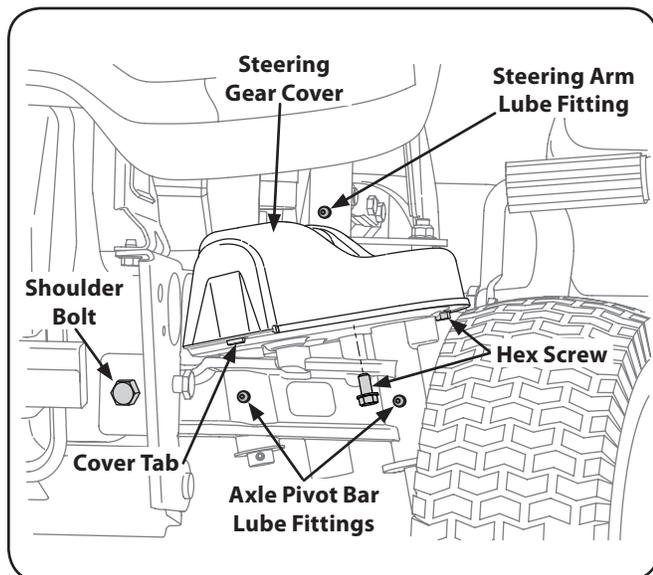

Figure 6-2
1. Apply grease through the lube fitting on the RH and LH steering arms which are located at rearward end of the two steering drag links. See Fig. 6-2.
2. Locate the lube fittings for the pivot shaft and axle on the front of one end of the axle pivot bar. Apply grease through the two lube fittings, then repeat to lubricate the other end of the pivot bar. See Fig. 6-2.
1. From beneath the cover base plate on each end of the pivot bar, remove the three hex screws securing the steering gear cover. Remove the covers and clean the gears. It is not necessary to lubricate the gears. Refer to Fig. 6-2.
- a. Support the pivot bar, then remove the hex lock nuts securing the two shoulder bolts that pass through the pivot bar bracket, the pivot bar, and frame. Refer to Fig. 6-2.